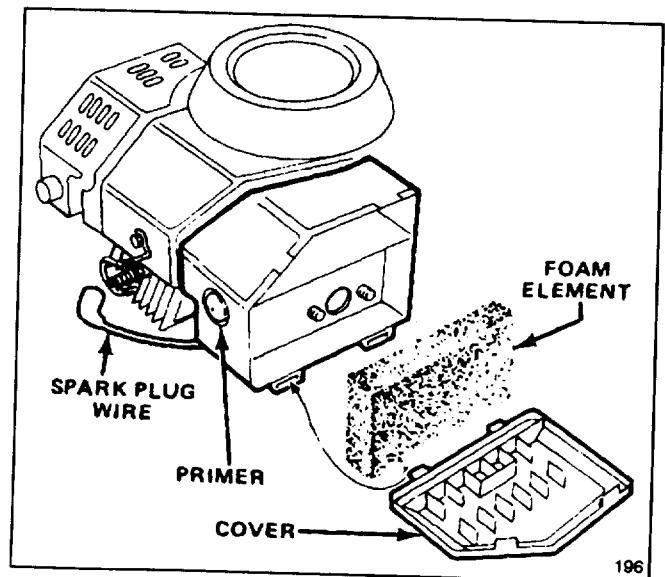

Figure 18
1. Stop engine and pull wire off spark plug (Fig. 18).